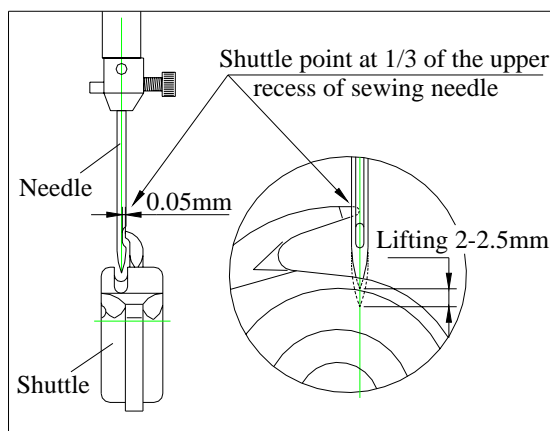

Fig.14
(2) Turn the hand wheel to make the needle at the lowest position. And then lift the needle by 2-2.5 mm. Here the shuttle point is just at 1/3 of the upper recess of sewing needle. The distance between the shuttle point and the needle slot surface is 0.05 mm. (See Fig.14)
(3) The wider the needle pitch is, the lower the shuttle point will be at the needle slot. Make sure that the shuttle point can't be too high or too low. Otherwise it might run into the top or bottom of the needle recess.
(4) Tighten the screws after adjustment.